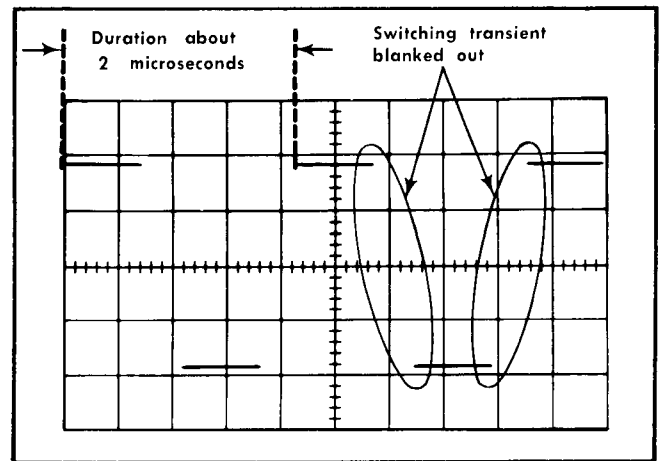

Fig. 6-57. Typical crt display when checking chopped repetition rate and blanking.
- d. Check—Each cycle for duration of 1.7 to 2.5 microseconds (see Fig. 6-57).
- e. Check—Crt display for complete blanking of switching transients between chopped segments (see Fig. 6-57).